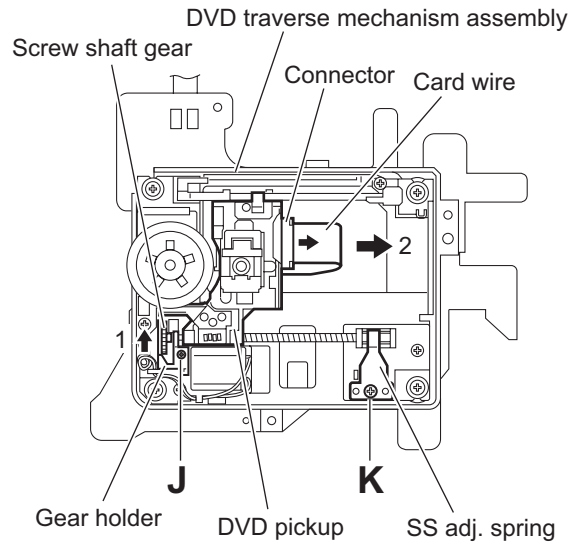

Fig.12
3.2.7 Removing the DVD pickup (See Figs.12 to 14)
- (1) From top side of the DVD traverse mechanism assembly, release the lock of the connector on the DVD pickup and disconnect the card wire in the direction of the arrow. (See Fig.12.)
- (2) Turn the screw shaft gear in the direction of the arrow 1 to move the DVD pickup in the direction of the arrow 2. (See Fig.12.)
- (3) Remove the screw **J** attaching the gear holder. (See Fig.12.)
- (4) Remove the screw **K** attaching the SS adj. spring. (See Fig.12.)
3.2.8 Attaching the DVD pickup (See Figs.12 to 14)
- (3) Attach the gear holder and SS adj. spring with the screws **J** and **K**. (See Fig.12.)
- (4) Turn the screw shaft gear to move the DVD pickup toward the left. (See Fig.12.)
- (5) Connect the card wire to the connector on the DVD pickup. (See Fig.12.)